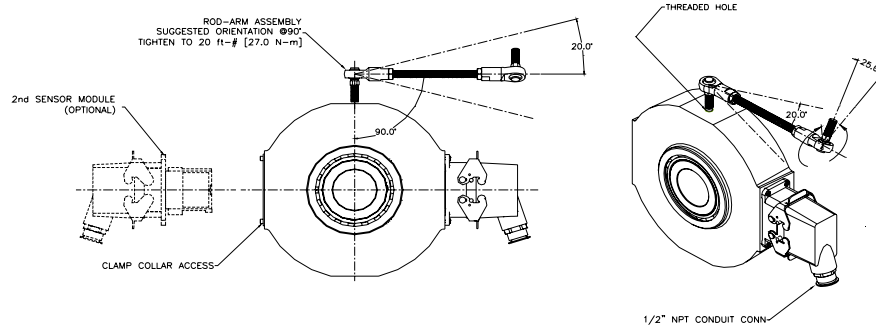

Figure 4: Anti-Rotation Arm Orientation
Figure 4: Anti-Rotation Arm Orientation.....	8
6. Attach/insert anti-rotation arm into the threaded hole (3/8"-24 UNF) in the encoder housing (see Figure 4). Complete approximately 10 turns of the anti-rotation arm into stud. Tighten locking nut (using a 9/16" open wrench) against the encoder housing.